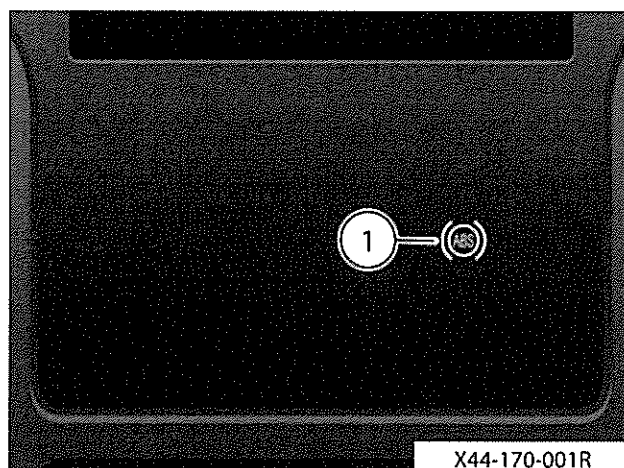

Fig 6 Deactivating ABS off-road logic
31.2 Refer to Fig 6. The vehicle yellow ABS warning light (1) starts flashing.
32 Refer to Fig 6. The ABS off road logic is deactivated as follows: